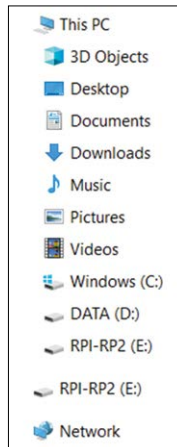

Figure 2.15: Pico as a removable drive RPI-RP2.
- You should see the Pico appear as a removable drive with the name **RPI-RP2** as shown in Figure 2.15 (drive **E:** in this case).